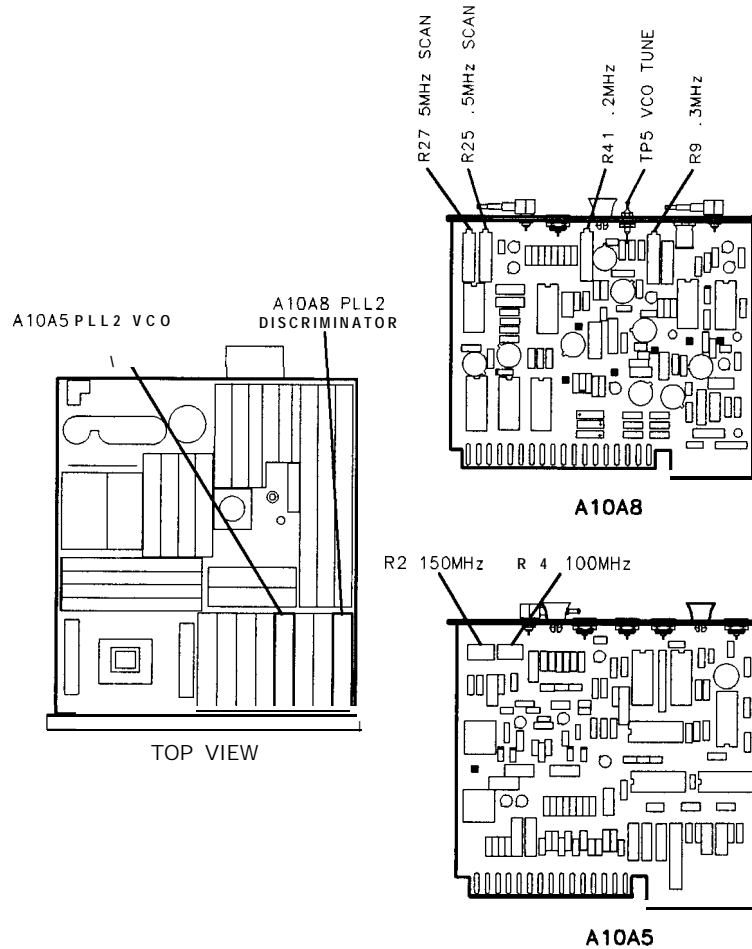

Figure 3-79. Location of PLL2 Adjustments
5. Connect the DVM to A10A8TP5 VCO TUNE. Refer to Figure 3-79 for the location of A10A8TP5 VCO TUNE.
6. Adjust A10A5R2 150 MHz adjustment for a DVM indication of $+3.0 \pm 0.5$ Vdc. Refer to Figure 3-79 for the location of A10A5R2 150 MHz adjustment.
7. Adjust A10A8R9 .3 MHz adjustment for a frequency counter indication of $0.300 \text{ MHz} \pm 0.001 \text{ MHz}$. Refer to Figure 3-79 for the location of A10A8R9 .3 MHz adjustment.
9. Adjust A10A5R4 100 MHz adjustment for a DVM indication of $+15.0 \pm 0.5$ Vdc. Refer to Figure 3-79 for the location of A10A5R4 100 MHz adjustment.
10. Adjust A10A8R41 .2 MHz adjustment for a frequency counter indication of $0.200 \pm 0.001 \text{ MHz}$. Refer to Figure 3-79 for the location of A10A8R41 .2 MHz adjustment.
25. Adjust A10A8R27 5 MHz SCAN to center the 100 MHz CAL OUTPUT signal on the center graticule line. Refer to Figure 3-79 for the location of A10A8R27 5 MHz SCAN adjustment.
27. Adjust A10A8R25 .5 MHz SCAN to center the 100 MHz CAL OUTPUT signal on the center graticule line. Refer to Figure 3-79 for the location of A10A8R25 .5 MHz SCAN adjustment.